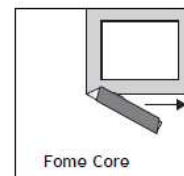

fig.2
2. Place the newly cut window mat onto a piece of Fome Core board and cut around it to create a backing board the same size as your mat - see fig. 2.